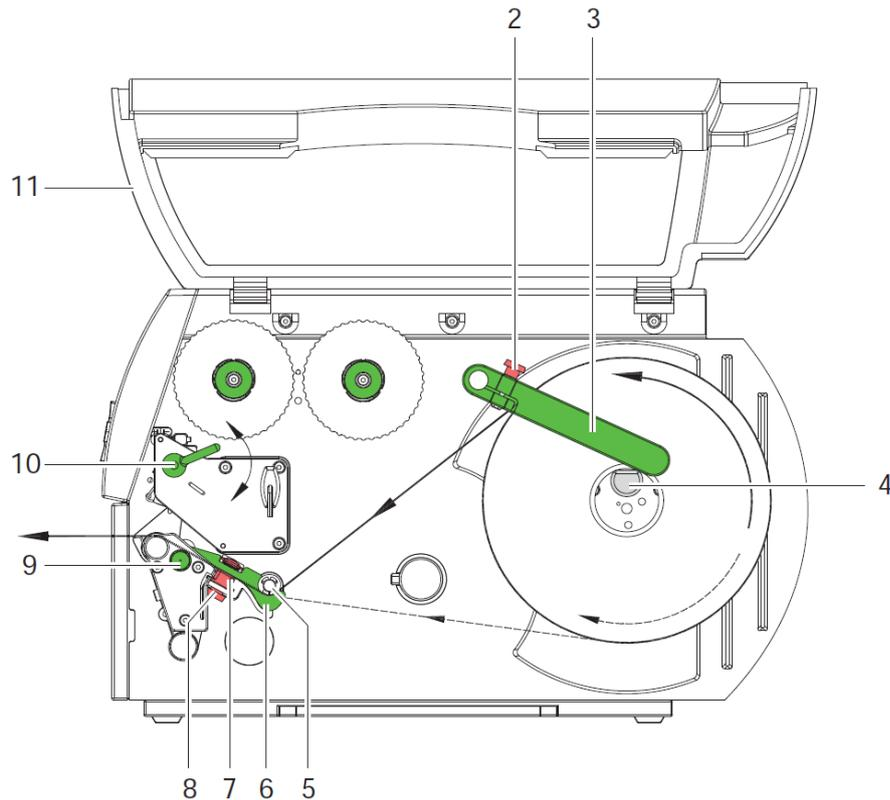

Figure 6 Loading labels from a roll
- ▶ Loosen the knurled knob (8, fig 6) and position label sensor by moving the knurled knob in such a way that the sensor can detect the label gap or a reflex or cut-out mark.